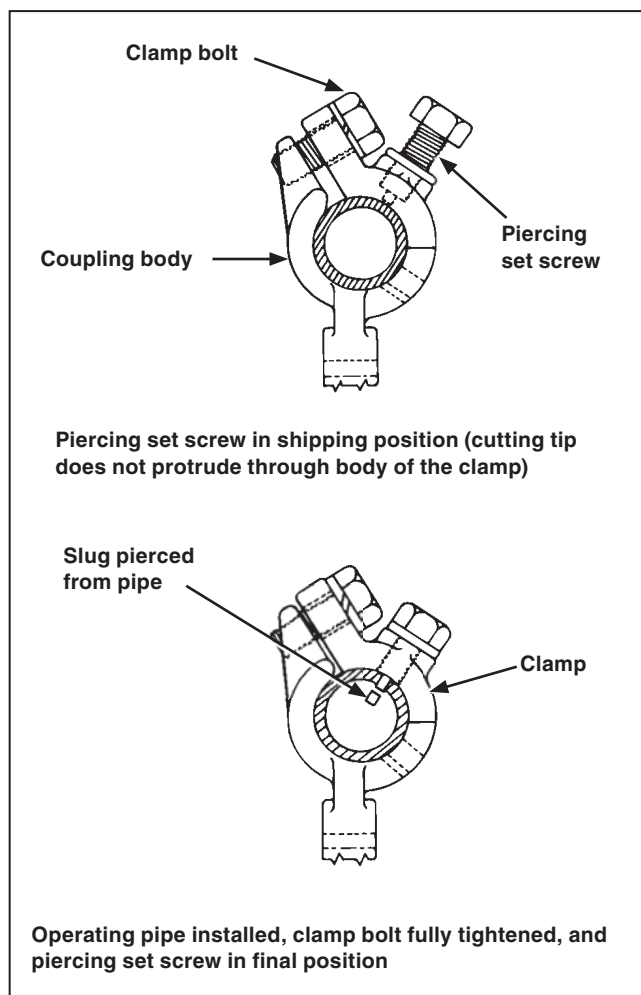

Figure 23. Installing the pipe couplings.
- (e) Make sure the clamp bolt(s) are tight. See Figure 23.